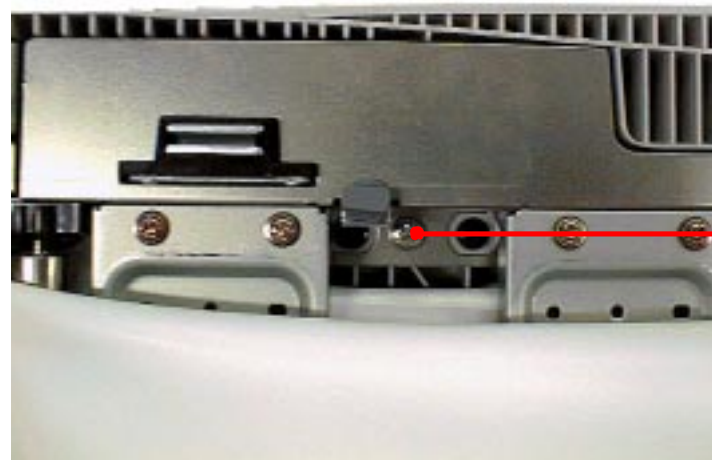

Figure 4-6. Transportation Belt Unit Fixing Screw Removal
3. Remove 2 right and left transportation belt unit fixing screws indicated in Figure 4-6, then hold the top edge of the belt and pull it forward and remove the whole belt unit by pulling it upward.